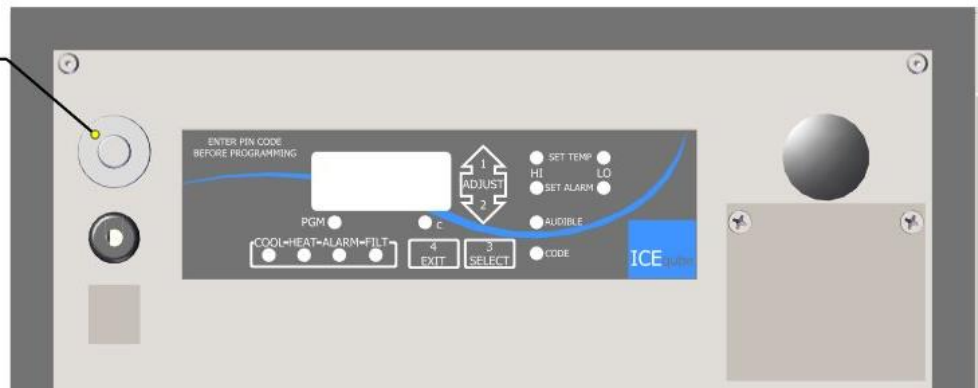

Figure 2: Push-to-Connect Fitting
3. After checking that all opening and bolt holes are in alignment, assemble and tighten the (2) 1/4"-20 or 3/8"-16 nuts and (4, 6 or 8 depending on model) 1/4"-20 x 1" bolts supplied with you Ice Qube TMS by hand. Check to ensure gasket will properly seal the Ice Qube TMS to your enclosure.
5. The **OPTIONAL** purge connector is provided as a means to purge harmful gases out of the evaporator compartment. This 1/4" (6.35MM) O.D. push-to-connect fitting is for convenience only and is **NOT REQUIRED** as a method of protection. All components are non-ignition source components and **DO NOT** require purge protection from any source. *(See Figure 2: Push-to-Connect Fitting)*